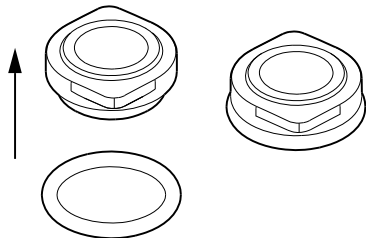

Fig. 23 Fitting the O-ring on the stationary shaft seal part
1. Fit cover plate (pos. 32) and O-ring (pos. 31). Lubricate the O-ring. See section 3. *Tightening torques and lubricants*.
2. Fit O-ring (pos. 102) on the stationary shaft seal part. See fig. 23. For correct lubricant, see section 3. *Tightening torques and lubricants*